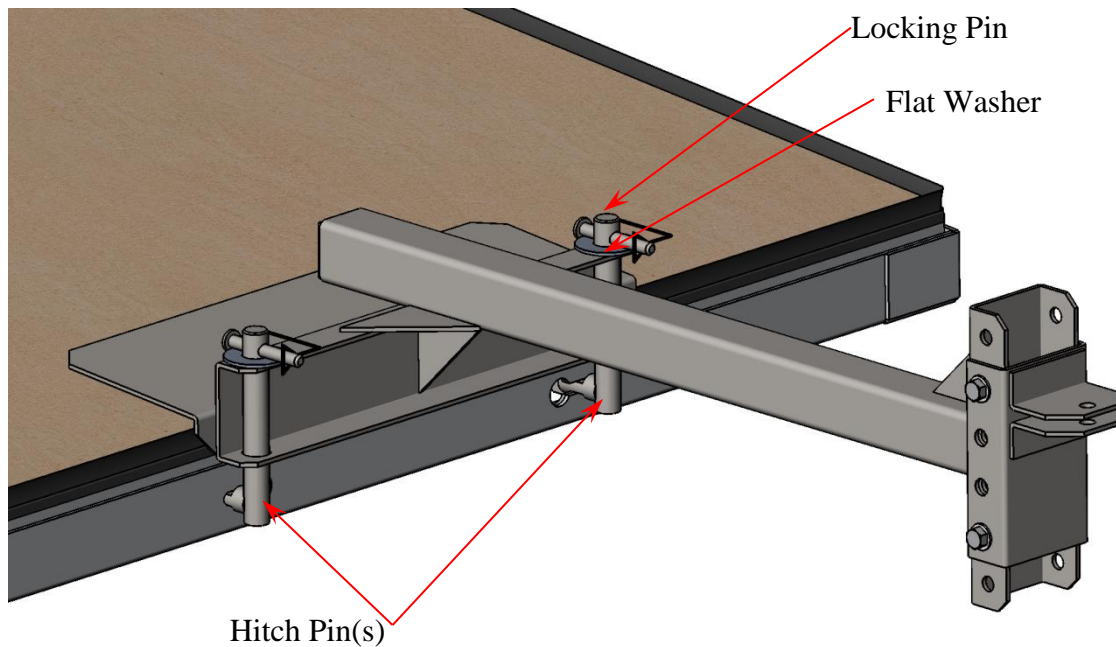

Figure 8
2. Once both pins are engaged into the grooves, place Center Section Hitch onto the pins as shown in *figure 8*. Place flat washer, insert locking pin and lock into position. Repeat procedure for opposing pin. Verify all components are secured correctly prior to attaching the hitch to a motorized vehicle.